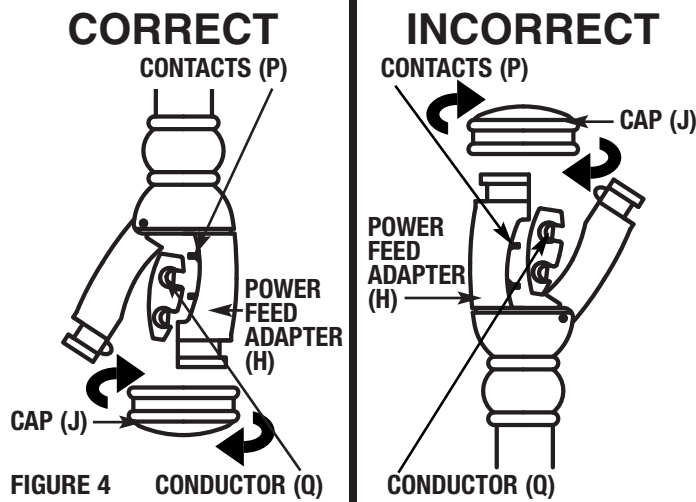

FIGURE 4
INSTALL RAIL ONTO POWER FEED AND SUPPORT (Fig. 4)
1. Unthread caps (J) from power feed and rail support adapters.
2. Install rail into rail adapters and power feed so conductors (Q) face contacts (P) of power feed (see Fig 4). ***Please make sure contacts (P) fit into rail conductors (Q) properly.**
- NOTE:** If power feed or support adapters (U) are not able to close around rail, turn rail around so adapter fits properly.
3. Close adapters over rail. Tighten grounding screw on power feed adapter (H) into rail with phillips head screw driver. Replace caps (J).